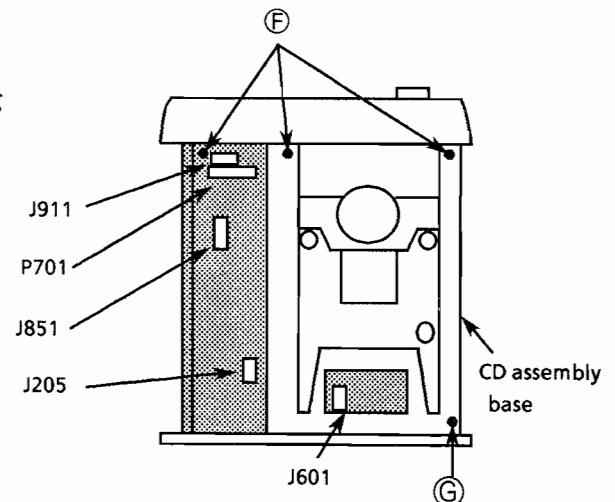

Fig 4 Top view
5. Remove the 3 screws (E) (Fig 4).
6. Remove the screw (G) on the CD assembly base.